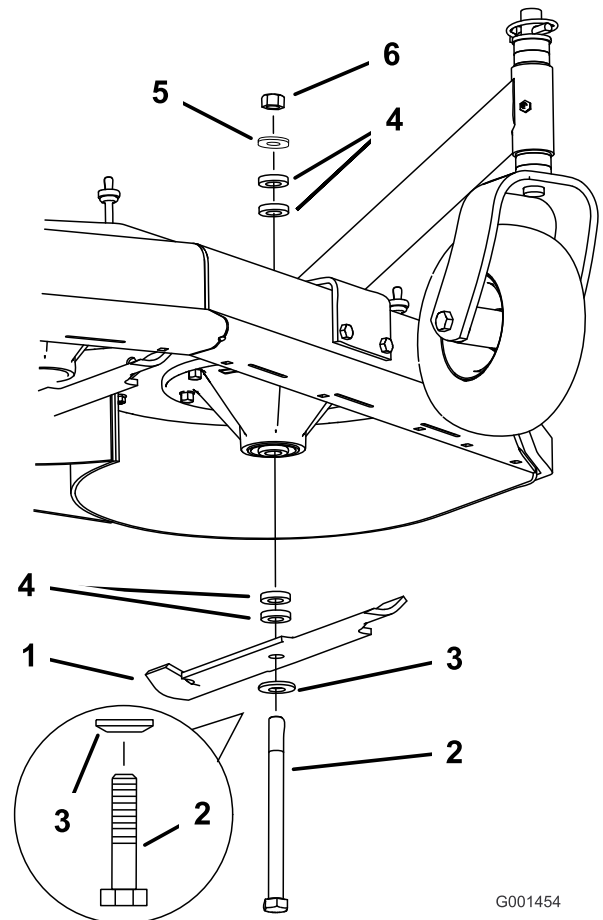

Figure 12
3. Hold the blade bolt and remove the nut (Figure 12).
4. Slide the bolt down through the spindle, and change the spacers as needed (Figure 12).
5. Install the bolt and curved washer, add extra spacer(s), and secure them with a thin washer and a nut (Figure 12).